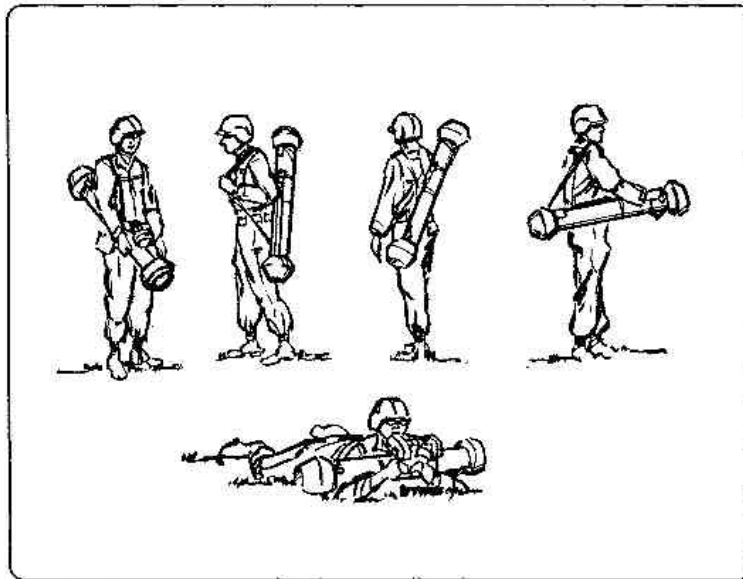

Figure 4-1. Dragon carrying positions.
a. **Long-Distance Carry.** The Dragon gunner normally carries the round and tracker separately. This is especially true for long-distance moves such as road marches or cross-country travel or when contact is not likely. Carrying options 1, 2, and 3 in Figure 4-1 are used for long-distance travel.
b. **Short-Distance Carry.** The gunner can carry the Dragon with the tracker mated to the round for short distances. When using this type of carry, the gunner must keep the forward protective shock absorber lens covers in place until the use of the weapon is anticipated. The protective lens covers prevent possible damage to the tracker lens and keep foreign objects out of the launcher. Carrying options 4 and 5 shown in Figure 4-1 can be used with the round and tracker mated. These carrying options should be used only when firing is likely, because the weapon system is in a ready-to-fire configuration.